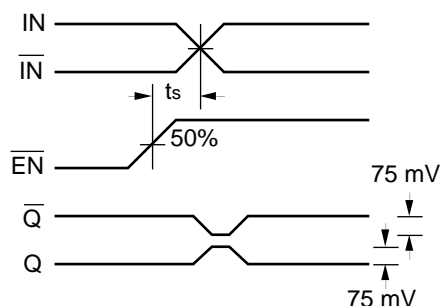

Figure 1. Set-up Time
- The set-up time is the minimum time that $\overline{\text{EN}}$ must be asserted prior to the next transition of IN/ $\overline{\text{IN}}$ to prevent an output response greater than $\pm 75\text{mV}$ to that IN/ $\overline{\text{IN}}$ transition (see Figure 1).